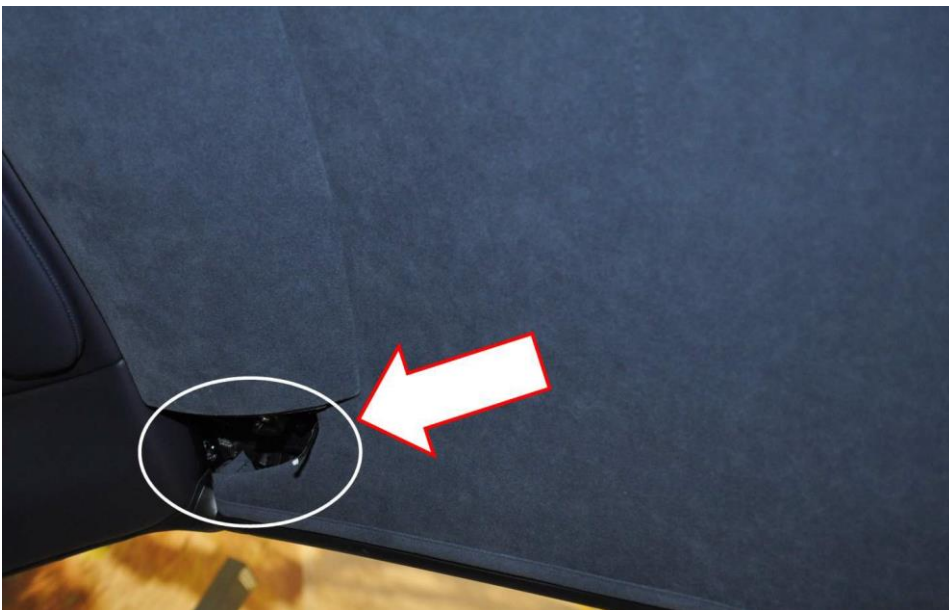

Figure 9
7) The header trim panel can now be refitted - Refer to Rep.Gr 61 – Once refitted the header trim panel gap will be as shown in Figure 9